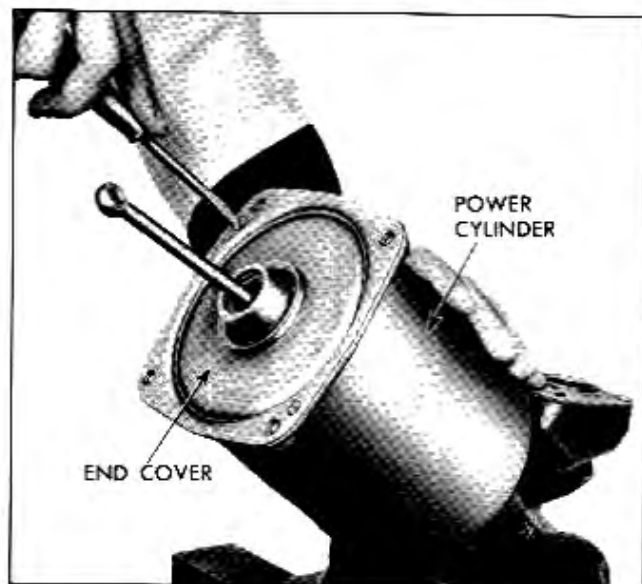

Fig. 5-42 Removing or Replacing End Cover
4. Remove the end cover and gasket that is held to power cylinder housing by two recessed flat head screws (Fig. 5-42).